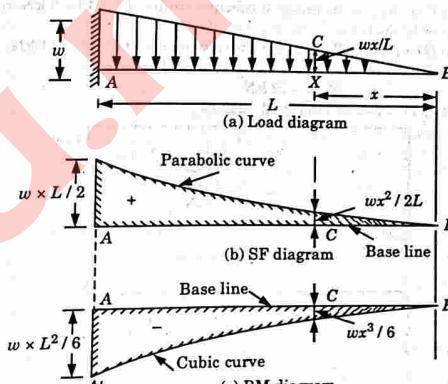

Fig. 2.11.1.
- Fig. 2.11.1 shows a cantilever of length L fixed at A and carrying a gradually varying load from zero at the free end to w per unit length at the fixed end.
Let us first find the rate of loading at the section X. The rate of loading is zero at B and is w per metre run at A. This means that rate of loading for a length L is w per unit length. Hence rate of loading for a length of x will be wx/L per unit length. This is shown in Fig. 2.11.1(a) by CX, which is also known as load diagram. Hence $CX = wx/L$.